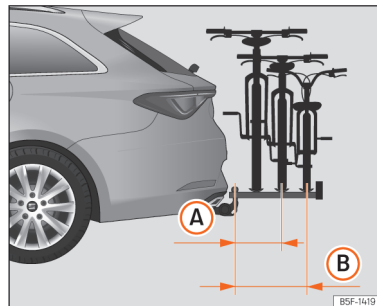

Fig. 200 Schematic representation of the maximum load overhang of a bicycle rack for two or three bicycles.
- (A)** With up to 55 kg load capacity: 500 mm (approx. 19.7 in)
- (B)** With 75 kg load capacity: 700 mm (approx. 27.6 in)
The maximum overhang shall not exceed 500 mm from the centre of the ball head to the centre of the rail of the last support » **Fig. 200 (A)** for two-bicycle racks. In the case of three-bicycle racks, the overhang must not exceed 700 mm » **Fig. 200 (B)**.